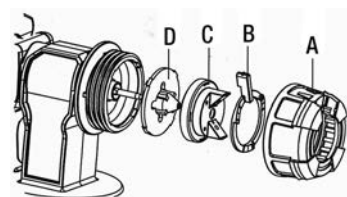

Figure 5
- 1) Loosen and remove the nozzle cap locking nut (A) Fig.5 and spray width adjusting lever (B).
- 2) Remove the nozzle cap (C).
- 3) Remove nozzle (D) and replace it with the desired nozzle. Reinstall all parts in reverse order.